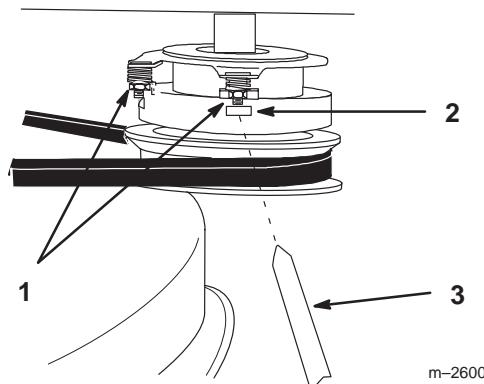

Figure 42
1. To adjust the clutch, tighten or loosen the lock nuts on the flange studs (Fig. 42).
2. Check adjustment by inserting a feeler gauge thru the slots next to the studs (Fig. 42).